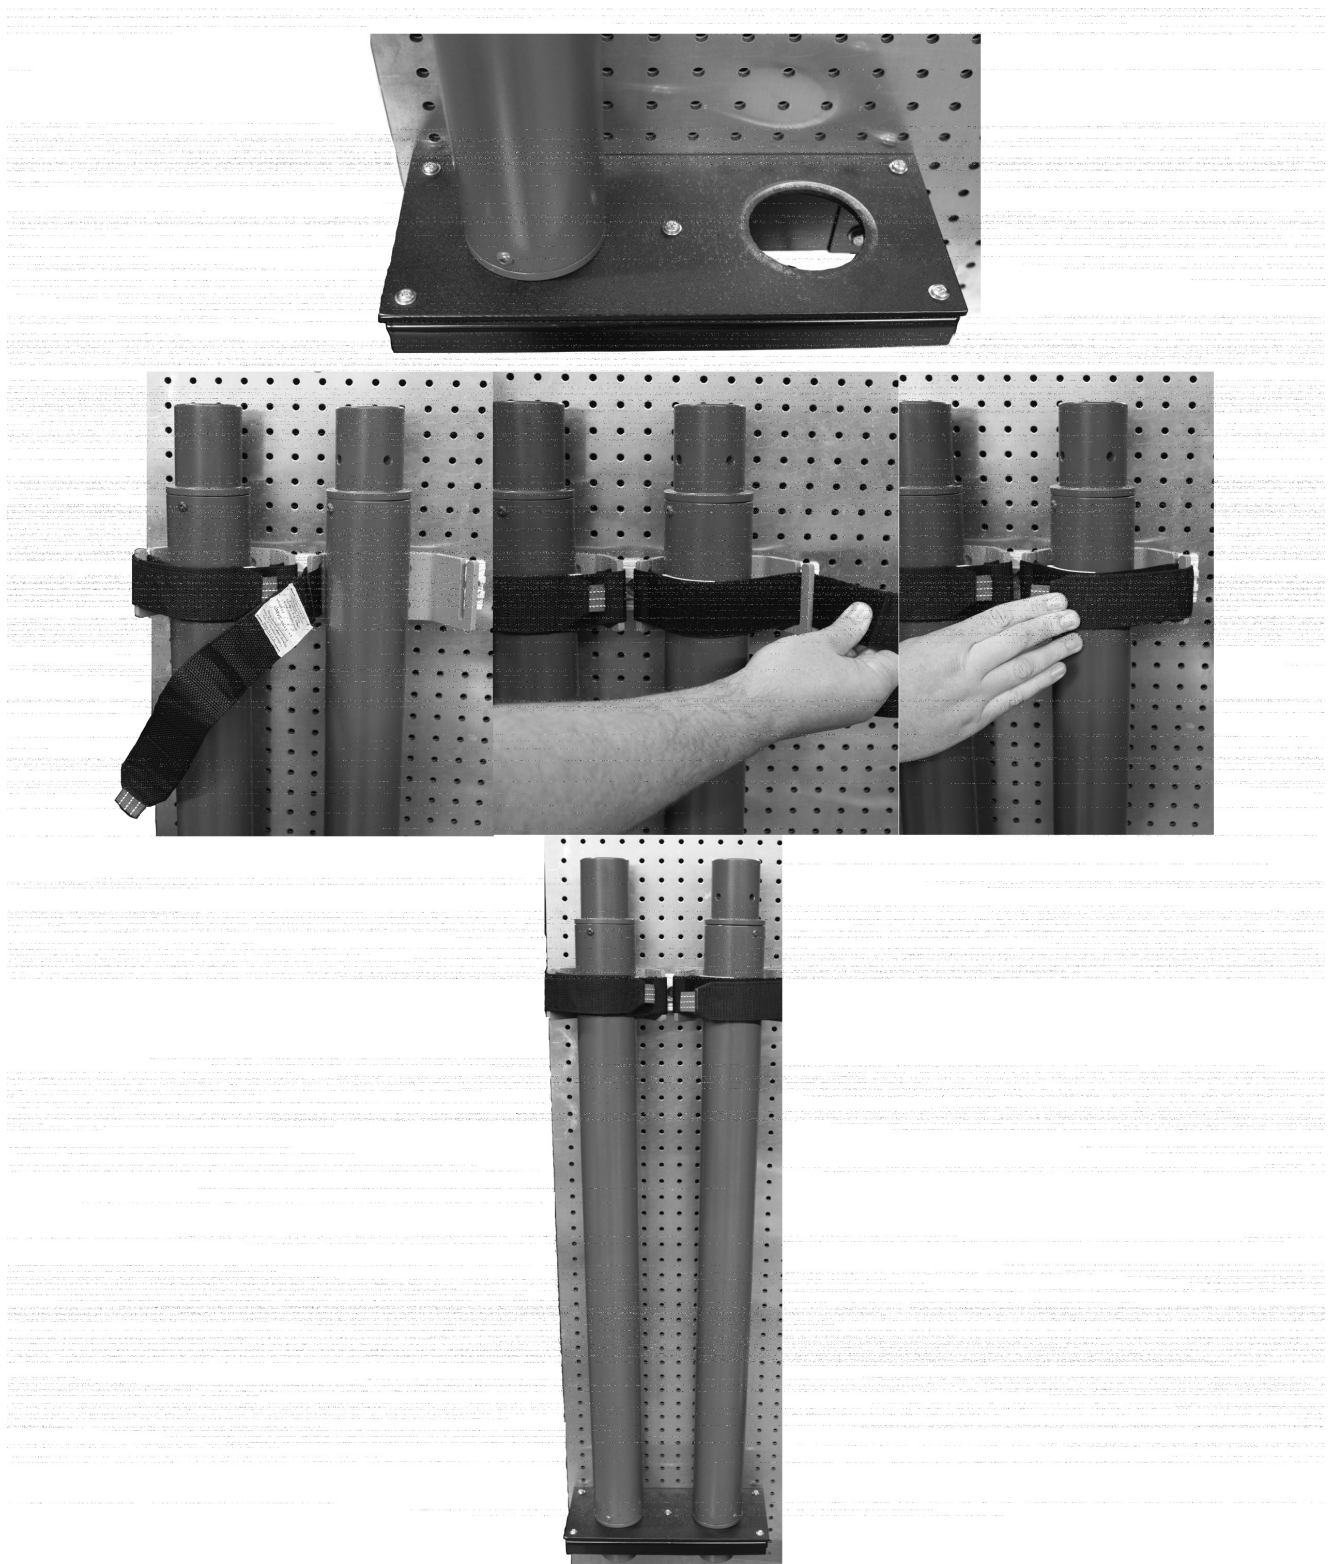

Figure 6 - Securing the Strut
1. Place the bottom of the Strut into one of the holes in the Strut Bracket Base (2).
2. Place and hold the Strut against the LH Bracket Strap (4) or RH Bracket Strap (5). See Figure 6.
3. Place the Strap (6) around the strut. Wrap the Strap around the open ended slot of the Bracket Strap. See Figure 6.